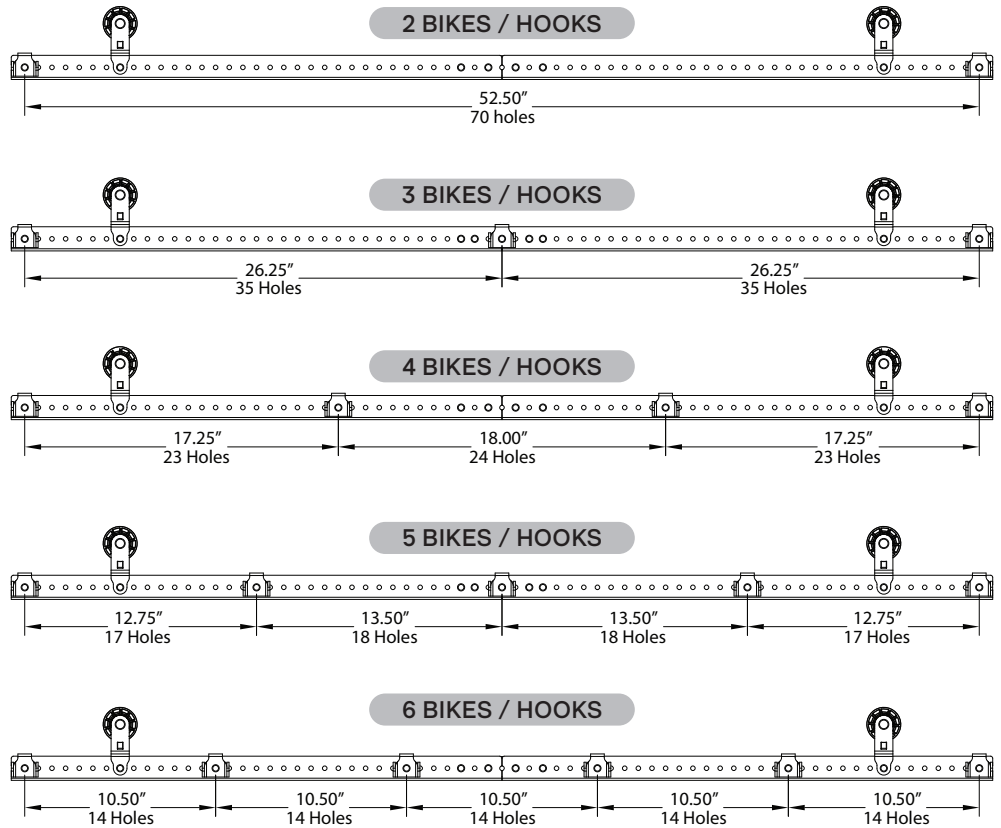

fig 1.3
7. The placement of hooks depends on the number of bikes you plan to lift and store. Refer to fig 1.3 to determine where hooks should be placed based on your lifting/storage needs. The Multi-Bike XL can lift 190 lbs. Keep this in mind when determining the number of bikes you'll lift. (fig 1.3)